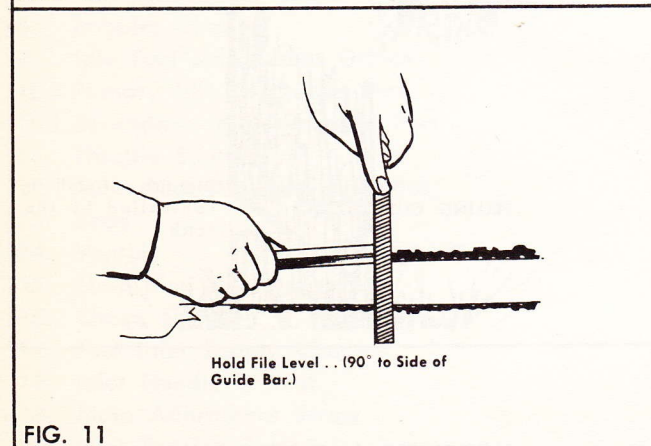

FIG. 11
7. The final step is to file the riders down. This is done with the use of a depth gauge (See Fig. 11). Care should be taken that all riders have the same height and that the leading edge is rounded off after filing. Set riders on direct drive chain saws at .025. Set riders on reduction drive models at .035. See picture.